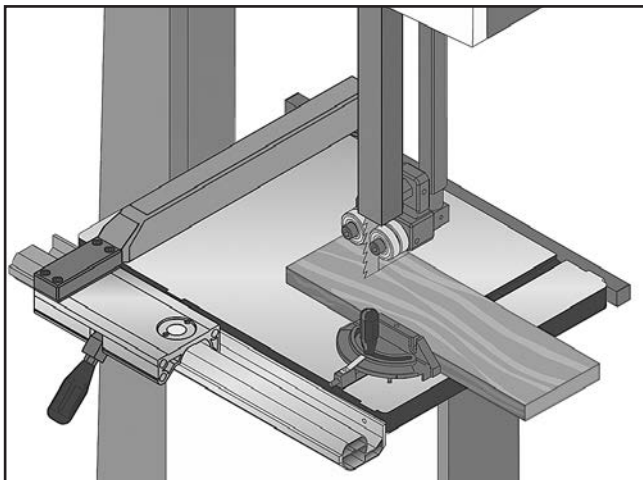

Figure 57. Example of crosscutting operation with miter gauge.
5. After all safety precautions have been met, turn the bandsaw **ON**. Slowly feed the workpiece into the blade and continue the cut until the blade is all the way through the workpiece. **Figure 57** shows a typical crosscutting operation.